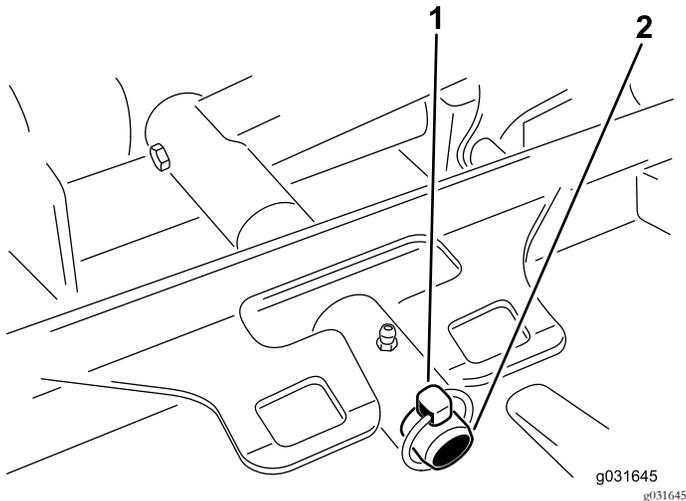

Figure 64
- Remove the lynch pin or retaining nut securing the deck carrier frame to the lift-arm-pivot pin (Figure 64).
- Slide the deck-carrier frame onto the lift-arm-pivot pin and secure it with the lynch pin or retaining nut (Figure 64).